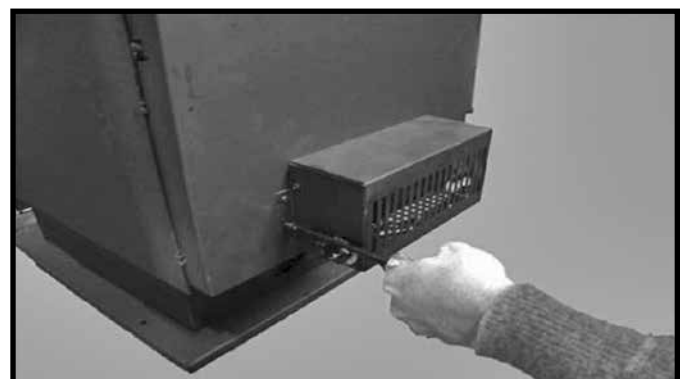

Figure 11: Installing the blower.
2. Place the blower into the opening in the rear shield with the blower outlet pointing up (Figure 11). Attach by using the screws provided with the Blower Kit,